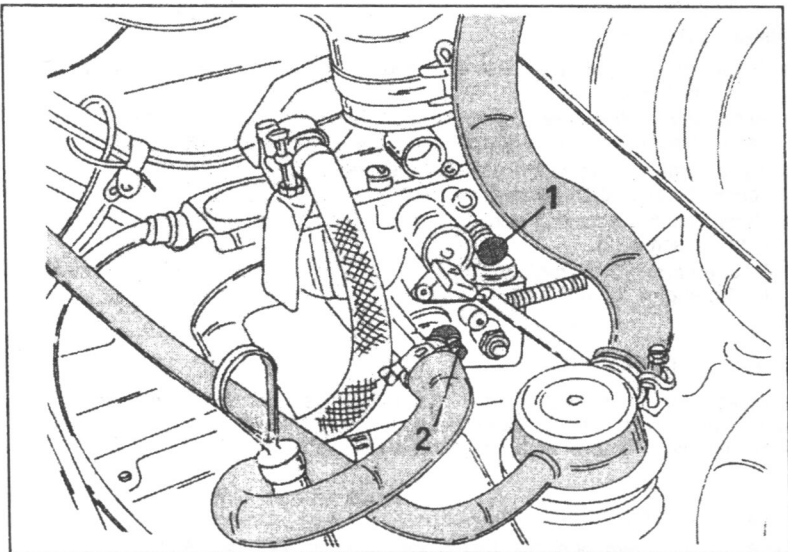

Fig. 1.91. — Throttle valve stop screw (1) and mixture adjusting screw (2).
The idle speed of all engines covered in this manual is given in Section 1.9.0., but you must note the differences between the 78 BHP and the 85 BHP engines. The adjustment is the same for all models. Fig. 1.91 shows as you will see the carburettor on the engine. The adjustments are carried out by referring to this illustration.
- Turn the throttle stop screw (1) in Fig. 1.91, located at the throttle lever until the engine runs with the speed given.
- To adjust the CO content, remove the tamper-proof plug covering the volume control screw (2) in Fig. 1.91 and turn the screw until the value given above is obtained. A pointed instrument (for example a scriber) must be used to remove the plug. Note the different values for the various engines, given in Section 1.9.0.
- Fit a white tamper-proof plug over the volume control screw (2).
- Rotate the throttle valve stop screw (1) in Fig. 1.91 until the engine idle speed has increased by approx. 50 rpm above the value applicable to the engine.
- Repeat the two adjusting steps until the engine idles as fast as possible by turning the screw (2).
- **Rotate screw (2) inwards** until the engine runs with the specified idle speed for the engine in question.